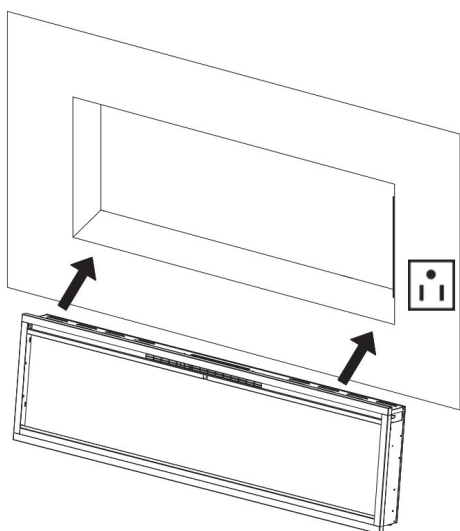

Fig. 2-1
2. Have two adult people to lift up the fireplace and insert it into the rough-in frame and then secure it by installing **2** wood screws (**B**) through the holes (**Fig. 2-1, Fig 2-2**).